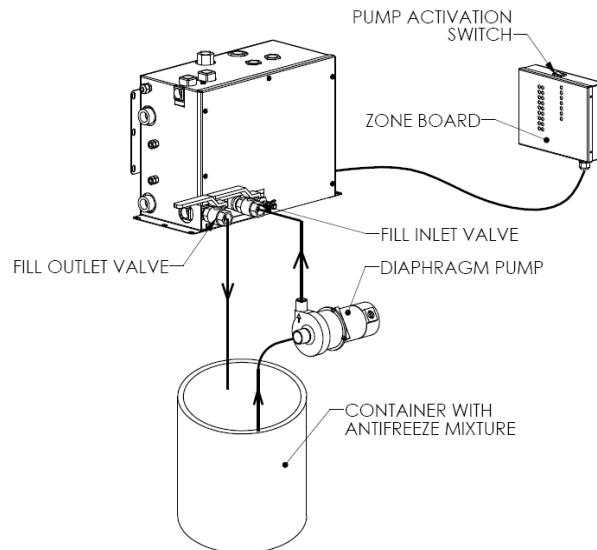

Figure 1: Initial fill up Oasis system
1. Connect a 3/4" hose to the outlet of a diaphragm pump and to the “filling inlet” valve on the distribution module. Attach a hose to the inlet of a diaphragm pump and place the hose in a container filled with a 50/50 mixture of propylene glycol and water. (see Figure 1).